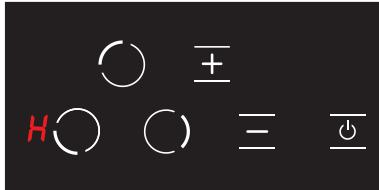

Figure 17
- If any hob is still hot after 20 seconds, **H** symbol is displayed until the temperature of the relevant hob becomes lower than +60 °C. (see Fig. 17) No icon is displayed after the stove is turned off if the relevant hob is not hot.